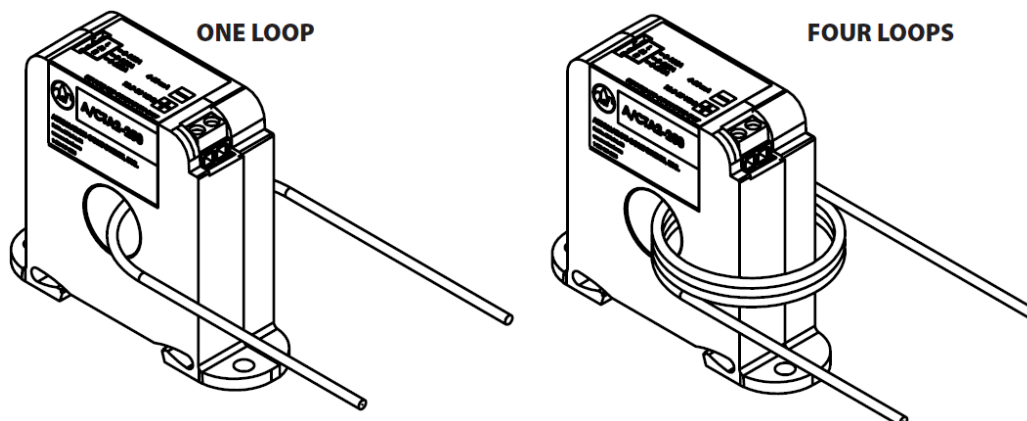

Figure 4
The conductor being monitored may be looped through the sensor multiple times. The loops increase the current measured by the current switch. Each time the conductor passes through the current switch window equals one loop (Figure 4). To determine the proper number of loops required, take the rated Fixed Trip Point of the current switch and divide it by the Operating Current of the Monitored Device, add one (1), then round up to the nearest whole number. Example: When using the NSA-A/CS2, a small fan operating at 0.1A should be wrapped through the sensor four times to give you a total operating current of 0.4 Amps flowing through the NSA-A/CS2. Formula Example: $(0.25A/0.1A) = 2.5 + 1 = 3.5$, which rounded up equals 4 loops.